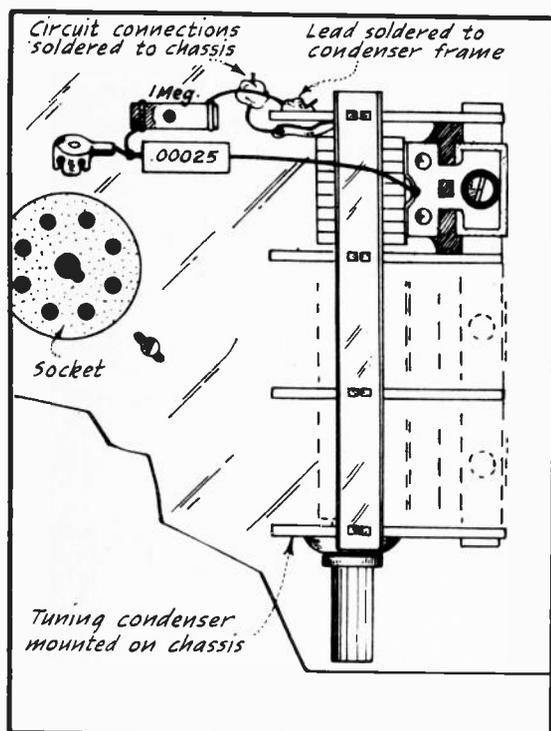

FIG. 5
**TUNING CONDENSER MOUNTING:** The gang tuning condenser should be installed so that its trimmer condensers face upward, and also so that the end of its shaft points toward the front edge of the chassis as shown in Fig. 5. Mounting screws have been riveted to the frame of the condenser at the factory and should be inserted in the holes provided for that purpose on the front center-section of the chassis deck (top). Upon inserting the screws in their respective holes, and applying the nuts from underneath the chassis, the tuning condenser will be held in place securely.
The final step is to complete the grid circuit outside of the chassis. To do this, connect a .00025 mf fixed condenser and a 1-meg-ohm resistor to the control grid clip, as shown in Fig. 5. You will observe that the free end of the condenser is connected to the stator plate terminal of the tuning condenser section being used, and that the free end of the resistor is soldered to the tuning condenser frame, which is equivalent to connecting it to the chassis.